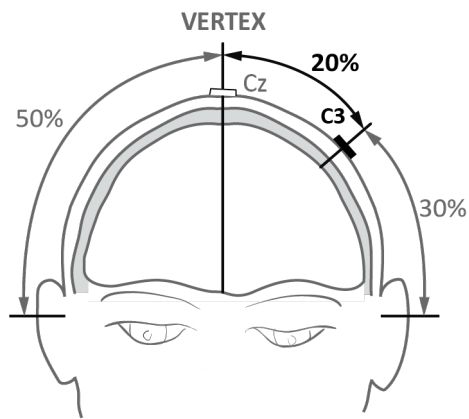

Fig. 46. C3.
6. From this point measure 20% of the distance between the external auditory meatuses towards patient's left ear, and mark the point. This is C3. **C3 is motor threshold detection location** (Fig. 46).